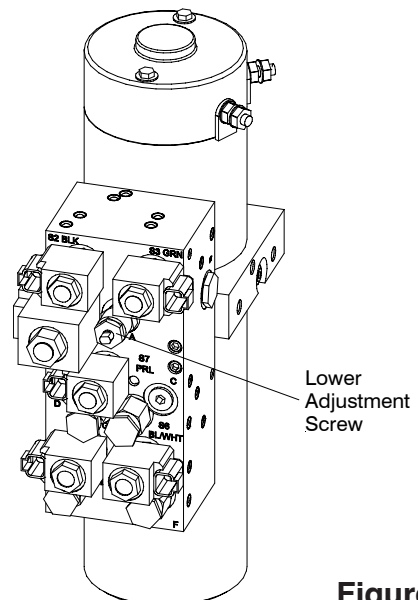

Figure 4
- K. After all electrical connections have been made the drop speed of the plow may be evaluated / adjusted. To adjust, loosen up the hex nut and adjust in to slow the drop speed and out to make it faster. After ideal drop speed it achieved, retighten the hex nut. See Figure 4.